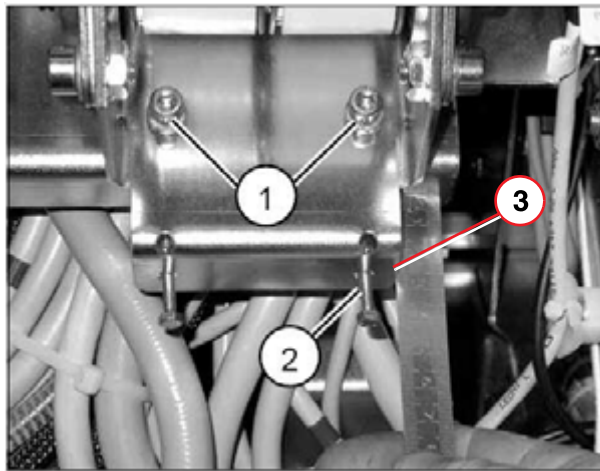

Fig. 19: Adjusting belt tension
- Loosen the 4 fastening screws ((1/ Fig. 19 / p. 53)) (two screws are not visible) and set a value of 28 mm ((2/ Fig. 19 / p. 53)) with the two adjustment screws ((3/ Fig. 19 / p. 53)).